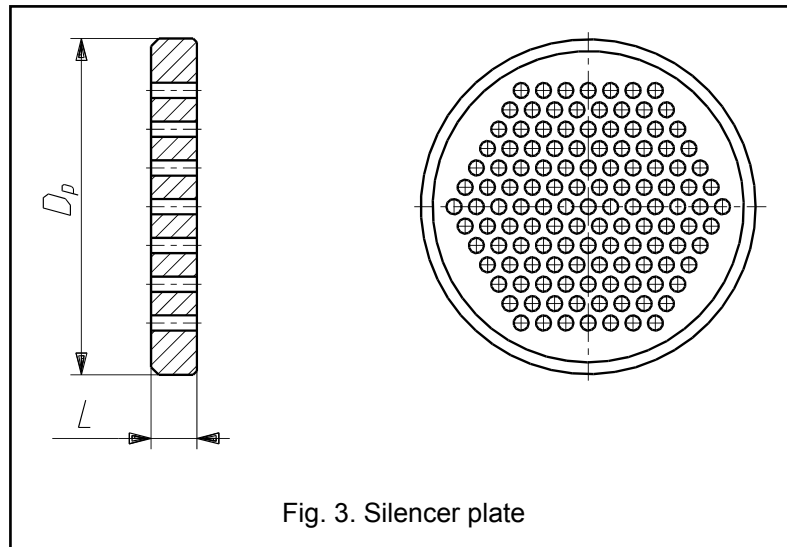

Fig. 3. Silencer plate
- silencer plates on valve outlet and/or inside of reduction joint (Fig. 3,4 and Table 13)